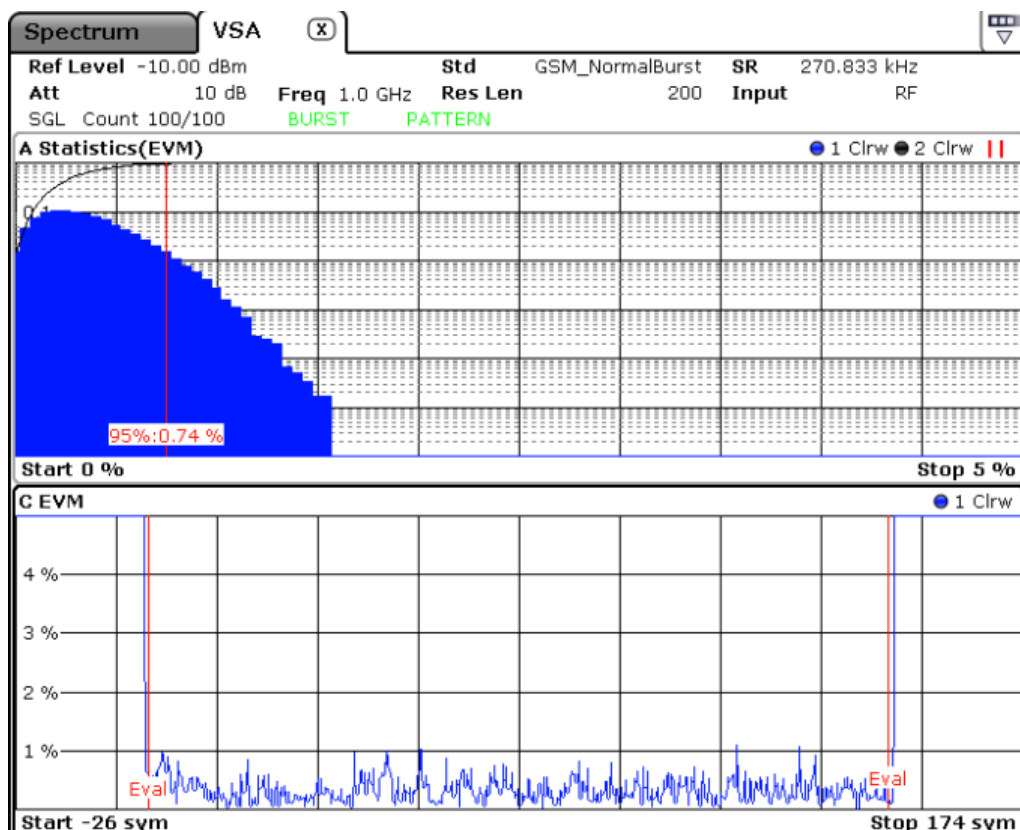

Fig. 4-76: Error vector magnitude (bottom), EVM distribution (top)
The figure 4-76 shows an example of a statistical evaluation. The lower window (C) shows the basic diagram (EVM), while the upper window (A) shows the associated distribution of the EVM.